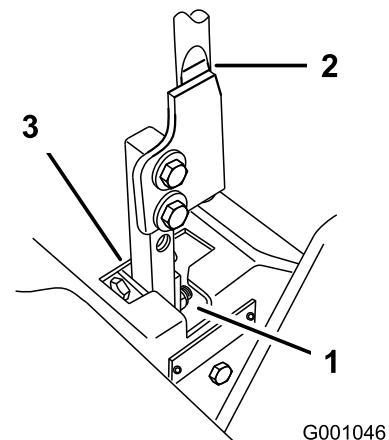

Figure 73
5. Move the lever to the neutral position but not locked (Figure 73).
6. Pull the lever back until the clevis pin (on arm below pivot shaft) contacts the end of the slot (just beginning to put pressure on the spring) (Figure 73).
7. Check where the control lever is relative to notch in console (Figure 73). It should be centered allowing lever to pivot outward to the neutral lock position.